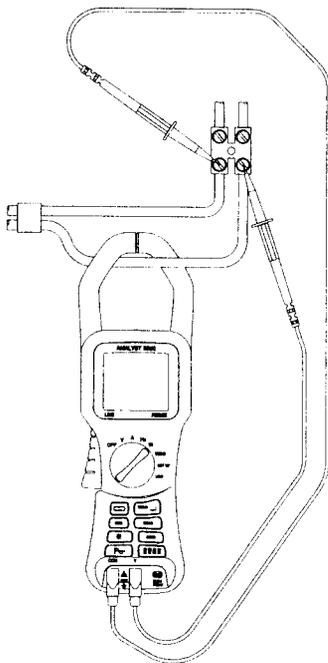

Fig. 4
- Press the trigger to open the jaws, and clamp them on the current carrying conductor, as shown in Fig. 4.
- When configured to measure power (Fig. 4) with the test leads connected and the jaws clamped around a current carrying conductor, the instrument displays the frequency of the current source (providing ARMS > 10A). If ARMS < 10A, a volts frequency measurement will be made (providing VRMS > 1V), otherwise --- will be displayed.